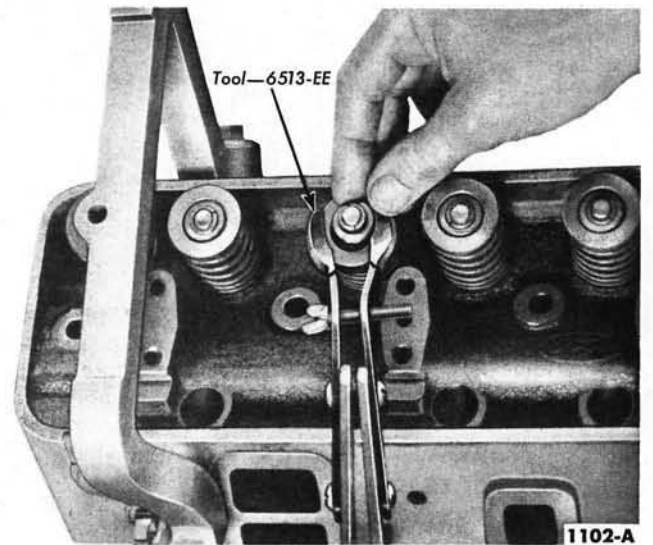

FIG. 20—Valve Spring Retainer Locks—Removal or Installation
1. Remove the spark plugs. Clean the combustion chambers before removing the valves. Compress the valve springs (Fig. 20), then remove the valve spring retainer locks, and release the
4. Compress the spring and install the retainer locks (Fig. 20).